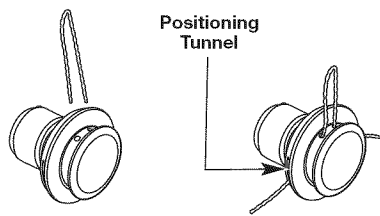

Fig. 22
4. Insert both ends of your line through the proper holes in the side of the cutting head (Fig. 22).